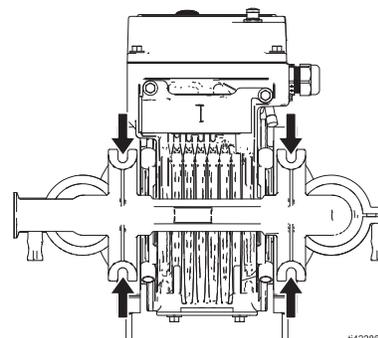

FIG. 5: Mounting Holes
3. For all mountings, be sure the pump is secured with fasteners through the mounting holes on the base. See FIG. 5. See **Dimensions**, starting on page 39.
To avoid pump damage, mount the pump to the mounting location using fasteners through each hole of the feet. See FIG. 5.